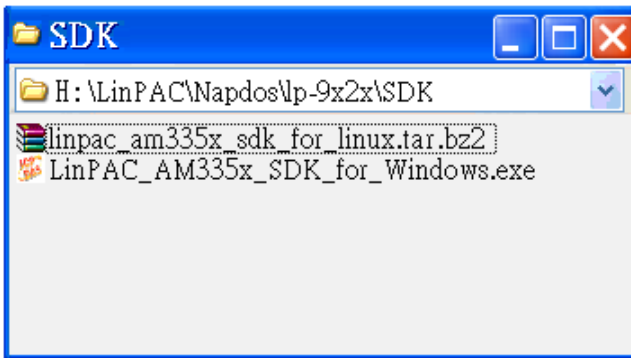
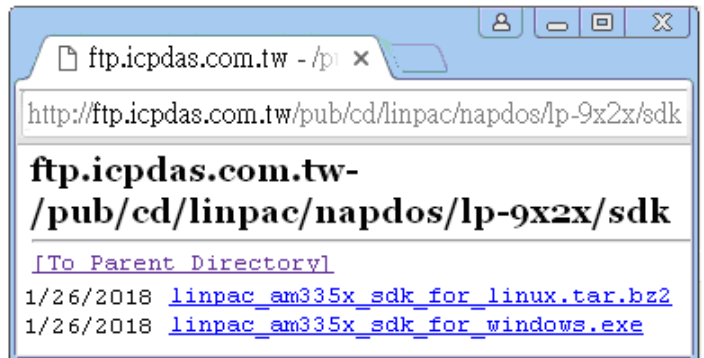

Fig. 3-2
Fig. 3-3
2. Insert the installation CD into your CD-ROM driver. Locate the “linpac\_am335x\_sdk\_for\_linux.tar.bz2” file in the \napdos\LP-9x21\SDK\ folder (or visit the ICP DAS website to download the latest version: <http://ftp.icpdas.com.tw/pub/cd/linpac/napdos/lp-9x21/sdk/>) (refer to Fig.3-2 and Fig.3-3).